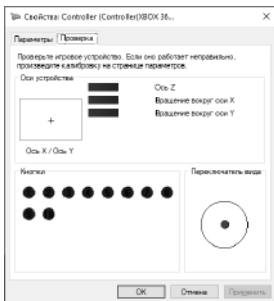

Fig. 4
• By clicking the «Properties» button, you can check the execution of commands by pressing the buttons and rotating the joysticks (Fig. 4). To calibrate the joystick, select the «Parameters» tab (Fig. 5), click «Calibrate» and follow the further instructions. The «Restore» button resets the default settings.